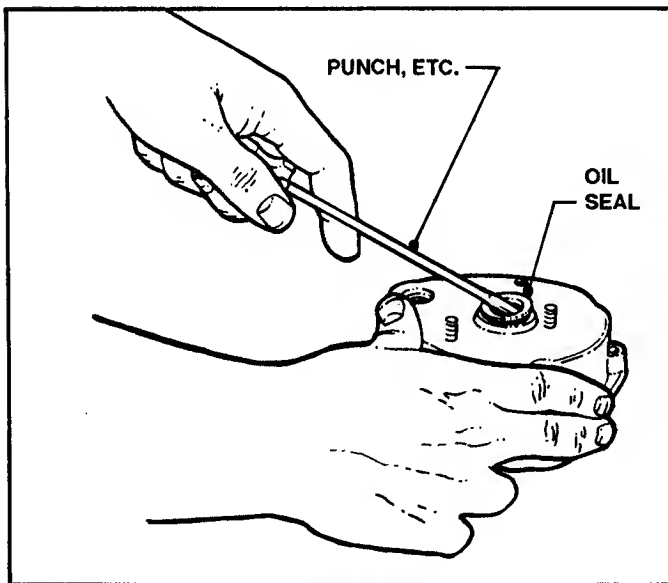

FIGURE 5.15
- (a) Pry faulty Oil Seals out of recess in Right and Left Housings with a punch or other suitable tool without damaging surfaces. See Figure 5.15.